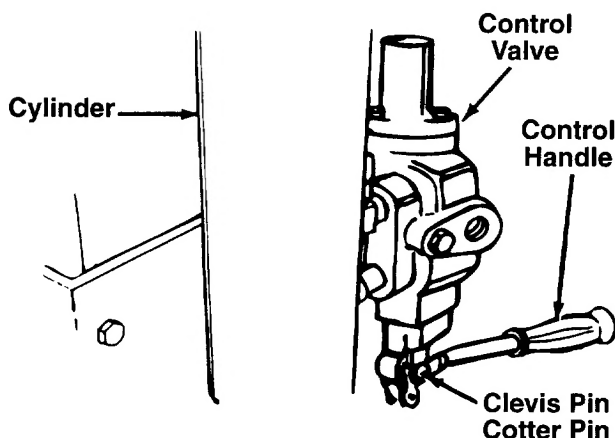

FIGURE 8.
1. For shipping purposes, the pressure hose is attached to the pump on the engine, and to the control valve on the cylinder (see figure 8). Disconnect the pressure hose from the pump.
2. The bottom of the control handle is already attached to the control valve. Remove the cotter pin and clevis pin which are attached to the valve. Place handle in position, and secure to the valve using the cotter pin and clevis pin. See figure 8.